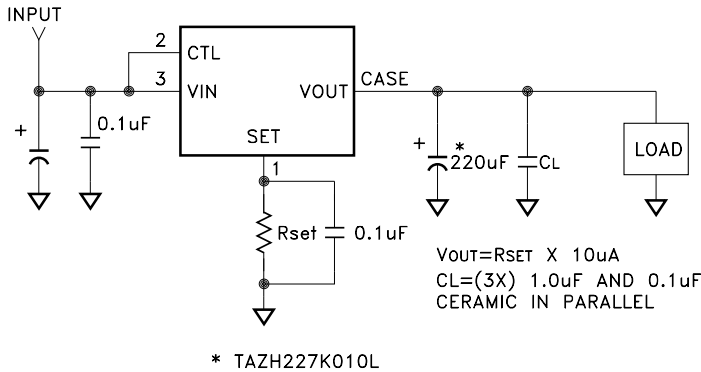

FIGURE 1
- ① Output is decoupled to ground using A 220µF tantalum low ESR capacitor in parallel with 3 pieces of 1.0µF and one 0.1µF ceramic capacitors unless otherwise specified. (See Figure 1)
- ② Guaranteed by design but not tested. Typical parameters are representative of actual device performance but are for reference only.
- ③ Industrial grade devices shall be tested to subgroup 1 unless otherwise specified.
- ④ Military grade ("H" suffix) and space grade ("K" suffix) devices shall be 100% tested to subgroups 1,2 and 3.
- ⑤ Subgroup 1 TA=TC=+25°C